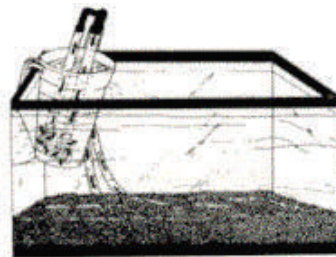

FIG. 16
9. Lift the container with the two tubes inside high enough to allow you to hook the container's handle over the lip of the aquarium. (Fig. 16) Care should be taken not to allow the intake tube to suck air during this operation.